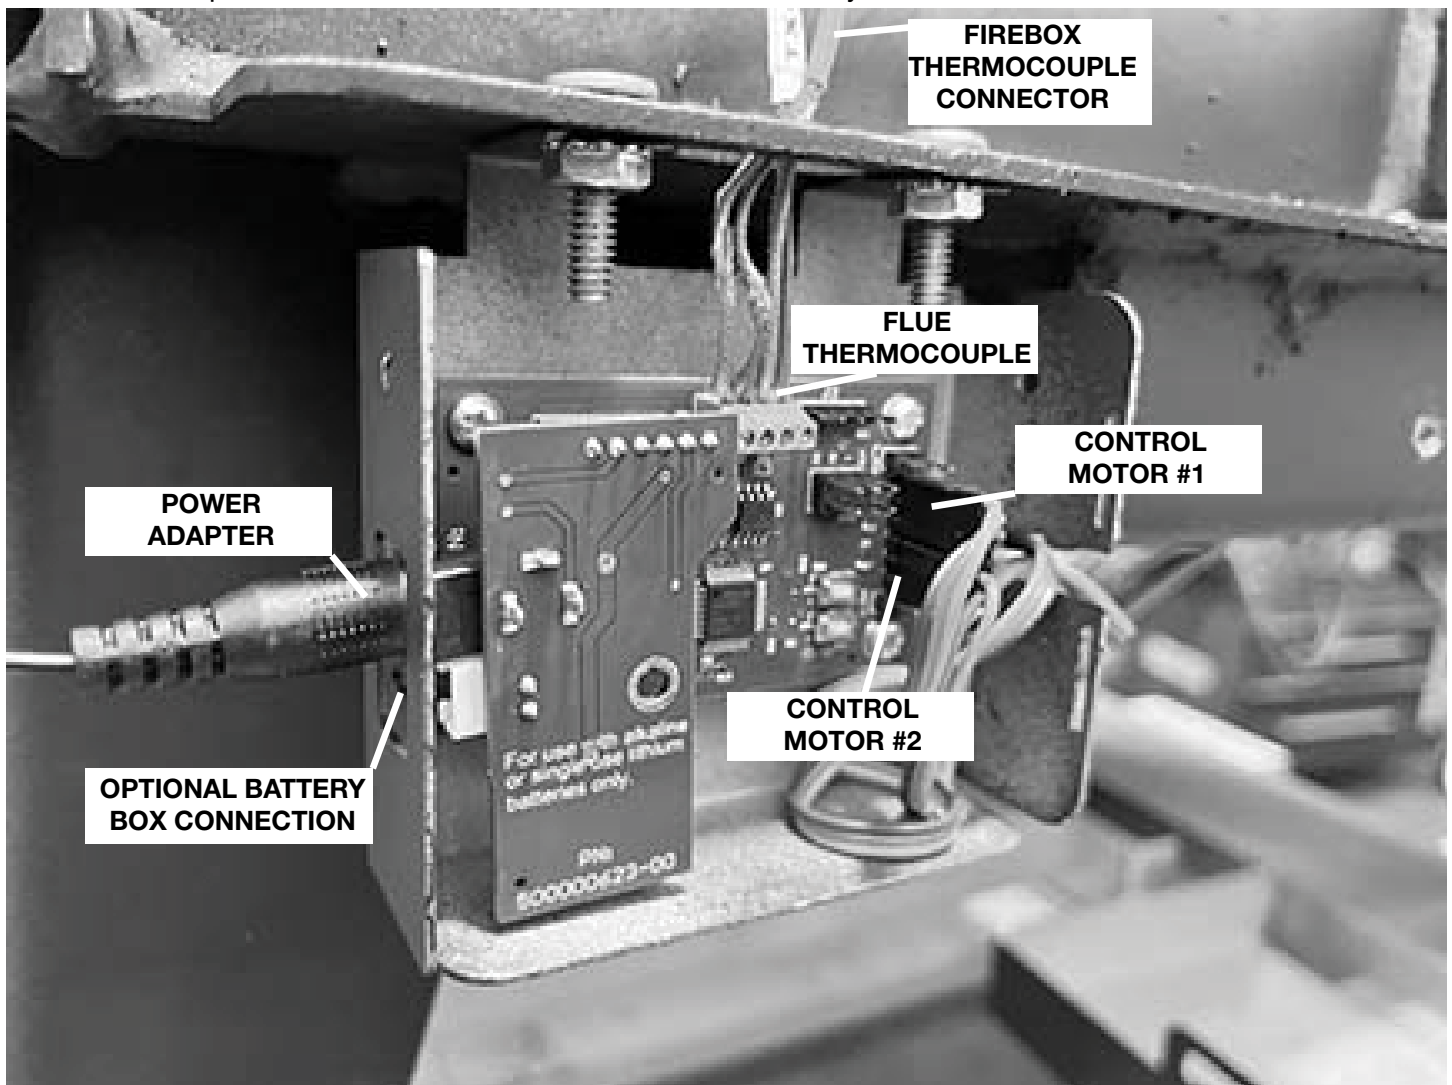

Figure 18: Control Board with connections.
3. Unplug the wires for the Motor Control Assembly that you are removing from the Control Board. Figure 18
2. Unplug the wires from the Motor Control Assemblies, located on the right edge of the Control Board. Note the placement for connecting the wires when installing the new Control Board Assembly. Figure 18
3. Using a small screwdriver, loosen the screws securing the Flue Thermocouple wires to the socket near the top of the Control Board. Then separate the connector for the Firebox Thermocouple just above the Control Board. Note the placement for connecting the wires when installing the new Control Board Assembly. Figure 18
4. Unplug the wires from the Battery Box, located on the left side of the Control Board. Note the placement for connecting the wires when installing the new Control Board Assembly. Figure 18
5. Unplug the wires from the Power Adapter, located on the side of the Control Board. Note the placement for connecting the wires when installing the new Control Board Assembly. Figure 18
6. Remove the two nuts and bolts at the top of the Control Board Assembly securing the assembly to the unit. Figure 18
3. Connect the plug from the Battery Box to the connection on the left side of the Control Board. See "Figure 18" on page 25 (Left side is "your left" and determined when standing facing the back of the unit.)
5. Using a small screwdriver, loosen the screws securing the Thermocouple wires to the socket near the top of the Control Board. See "Figure 18" on page 25. Note the placement for connecting the wires when installing the new Control Board Assembly.
5. Separate the connector for the Firebox Thermocouple just above the Control Board. See "Figure 18" on page 25.